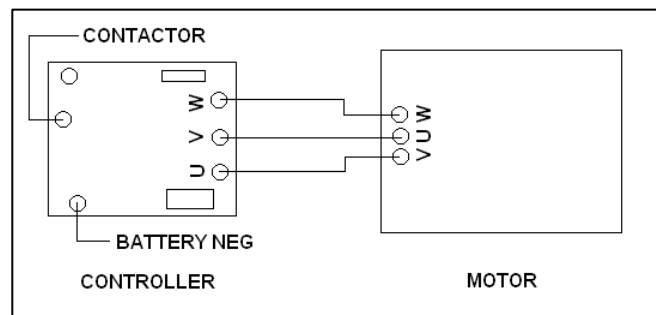

Figure 9-1
2. Mark traction motor cables (if not already marked), with motor terminal identification. Figure 9-1 shows the motor /controller connections.